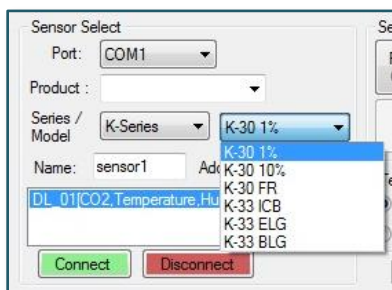

Figure 13: Model dropdown menu
- **Model** – if you selected a part number on the **Product** field above, then the proper sensor model is populated automatically. Alternatively, you can select the model number of your sensor from this dropdown menu, as shown in **Figure 13** below.